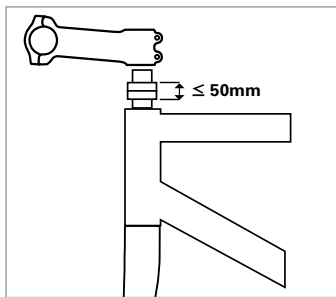

Figure 4
- The spacer stack between the headset and stem must not exceed 50mm (Fig. 4).